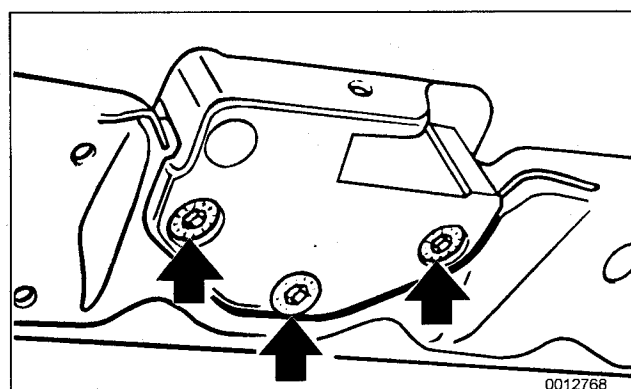

Fig. 7. Visor latch plate is held to top of windshield with three bolts (arrows).
- Retighten bolts. See Fig. 7.